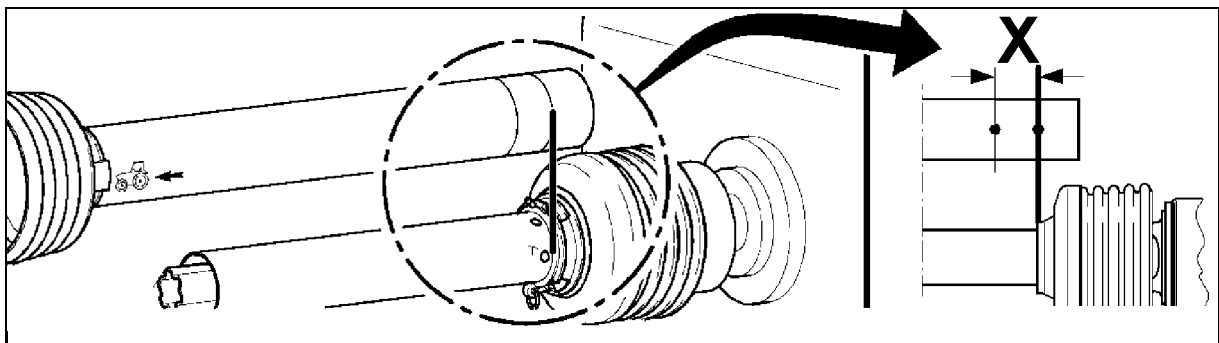

Fig. 93
6. Shorten the propeller shaft, such that the **minimum free space (X)** is at least 40 mm in its shortest operating position (Fig. 93).